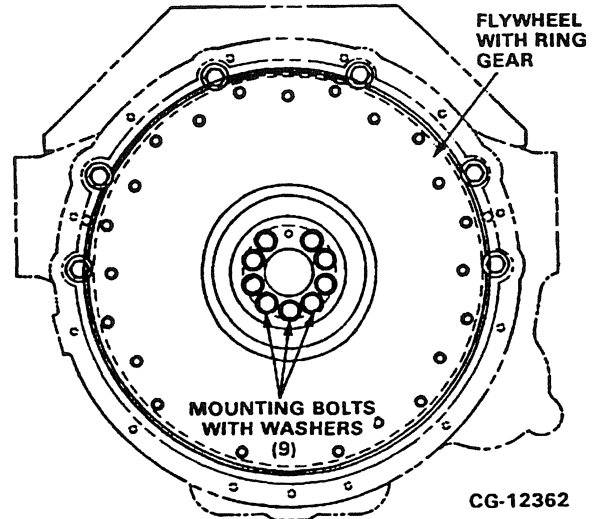
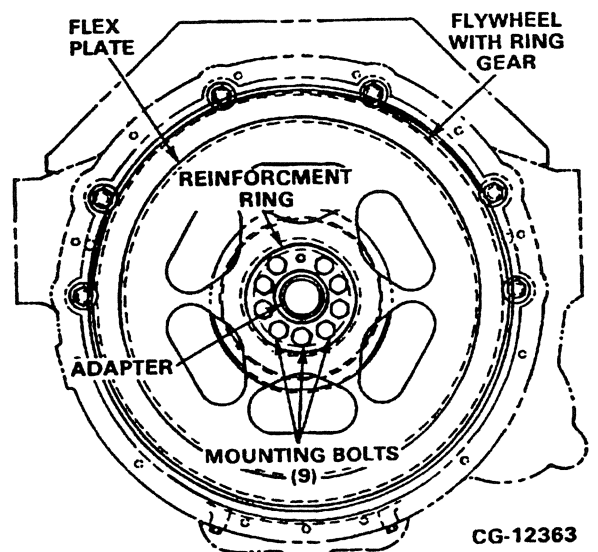

Figure 6.15. Flywheel Removal (Manual Transmission)
Figure 6.16. Flywheel Removal (Automatic Transmission)
1. Remove nine mounting bolts and remove the flywheel assembly from the crankshaft flange. Refer to Figure 6.15 (manual transmission) and Figure 6.16 (automatic transmission).